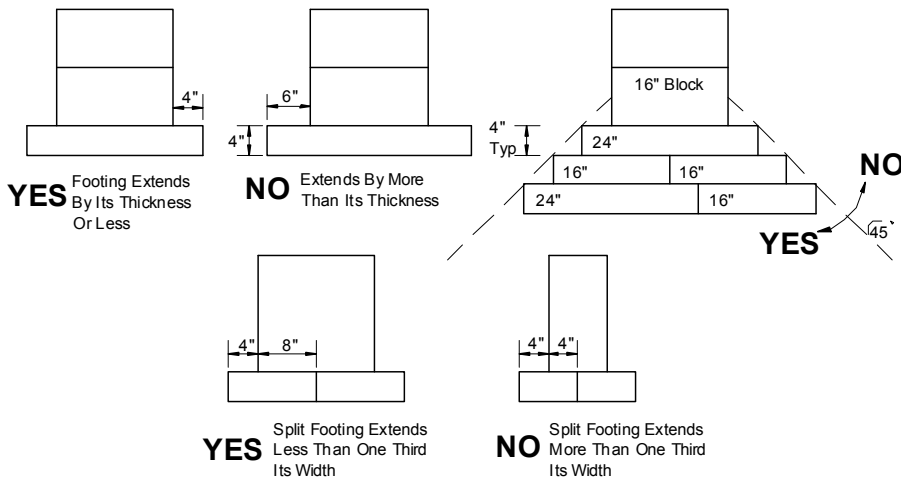

Figure 13. Maximum footing extensions
- Design footings with a footing extension (projection beyond the base of the pier) no greater than the footing thickness (**Figure 13**). Increase footing thickness if necessary.